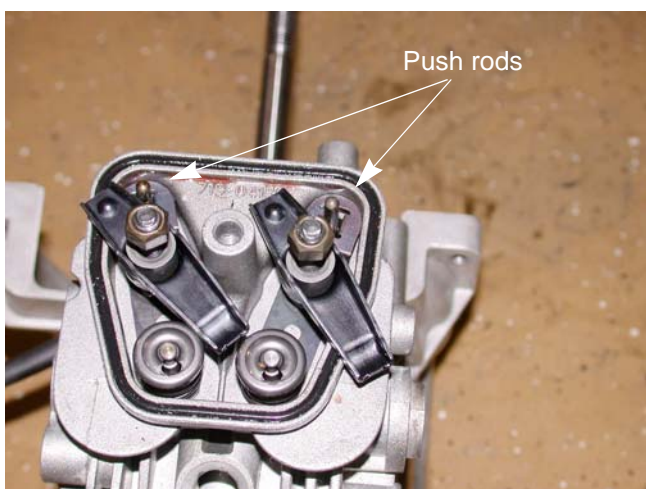

Figure 8.23
15. Pivot the rockers to the side and insert the push rods. See Figure 8.23.